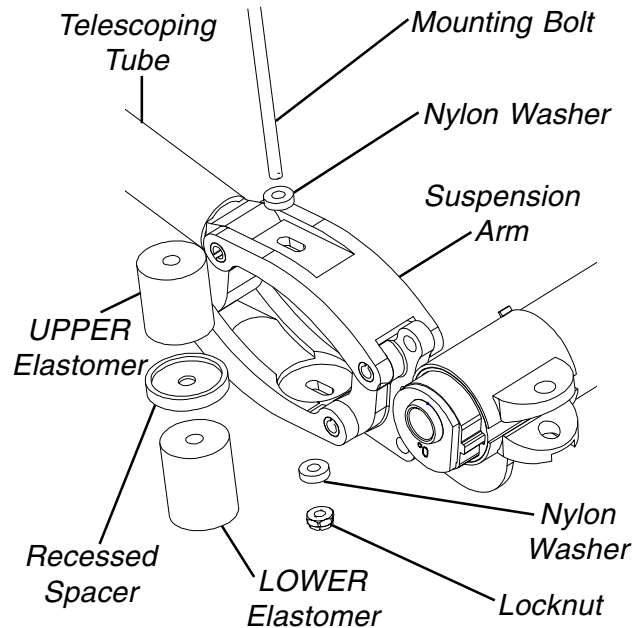

FIGURE 1 - REPLACING REAR ELASTOMERS
REPLACING REAR ELASTOMERS (FIGURE 1)
3. Reinstall the nylon washers, UPPER and LOWER elastomers determined in STEP 1 and recessed spacer into the suspension tube with the mounting bolt. Refer to FIGURE 1 for hardware orientation.
5. Tighten the locknut until three (3) threads can be seen on the end of mounting bolt.